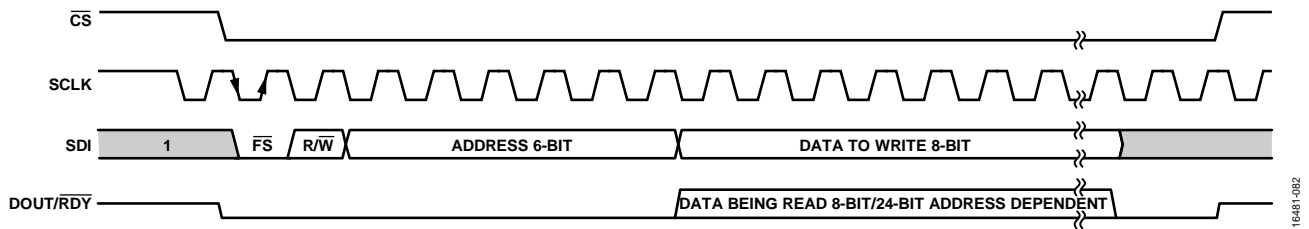

Figure 86. SPI Basic Read/Write Frame
The format of the SPI read or write is shown in Figure 86. The MSB is the first bit in both read and write operations. An active low frame start signal ($\overline{\text{FS}}$) begins the transaction, followed by the R/W bit that determines if the transaction being carried out is to a read (1) or a write (0). The next six bits are used for the address, and the eight bits of data to be written follow. All registers in the AD7768-1 are 8 bits in width, except for the ADC_DATA register (Register 0x2C), which is 24 bits in width. In the case where $\overline{\text{CS}}$ is tied low, the last SCLK rising edge completes the SPI transaction and resets the interface. When reading back data with $\overline{\text{CS}}$ held low, it is recommended that SDI idle high to prevent an accidental reset of the device where SCLK is free running (see the Reset section).